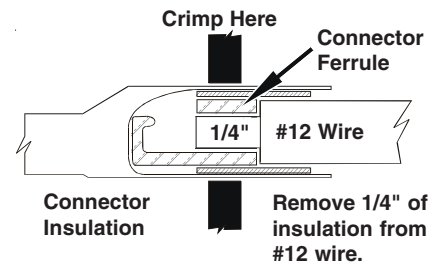
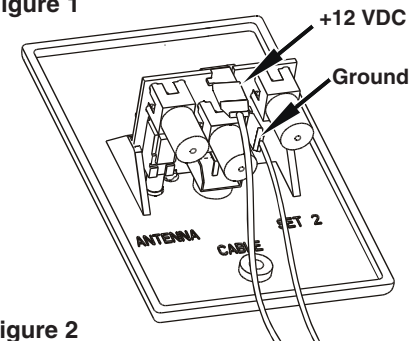
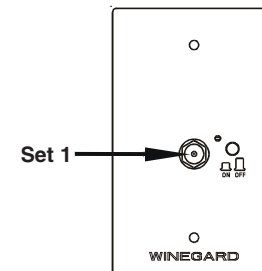

Figure 1
Figure 2
Figure 3
STEP 3. Make 12 volt connection to wall plate/power supply Figure 2. Install terminals on wires from +12VDC source as shown in Figure 1. Crimp terminals with Craftsman type 4 crimping tool or equivalent. Push wires onto tabs on terminal board as shown in Figure 2. If in doubt as to the polarity of the wires, connect them temporarily to tabs on circuit board and press switch on front of outlet, if light comes on polarity is correct. See Figure 3.